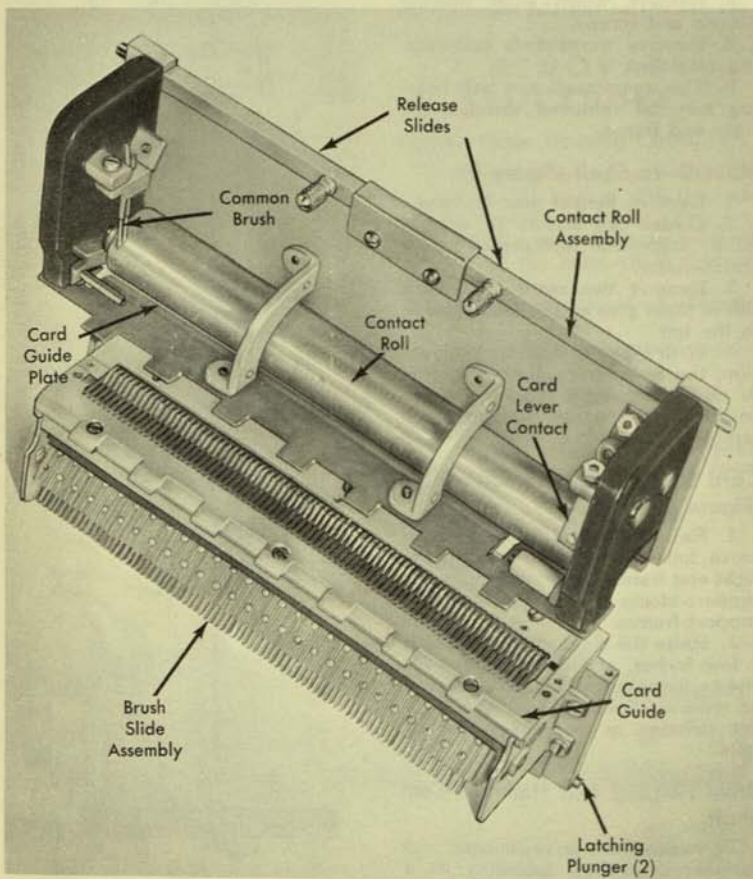

Figure 11. Type 550 Brush Slide and Contact Roll
TYPE 550 and Type 551 Brush Slides and Contact Roll Assemblies are *not* interchangeable. They differ in construction and distance relationship between the card feed and contact roll (Figures 11 and 12).
Brush Slide (Figures 11 and 12)
Contact Roll (Figures 11, 12 and 14)
1. Install each brush for a $\frac{1}{8}$ " projection from the heel of the brush to the face of the brush plate (Figures 11, 12).
Contact-Roll Slide (Figures 11 and 12)
Card Lever Contact (Figures 11 and 12)